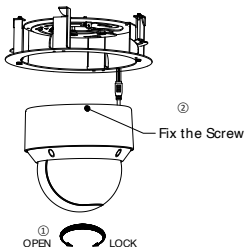

Figure 2-63 Fix the Camera
6. Fix the screws on the side with a screwdriver, as shown in Figure 2-63.